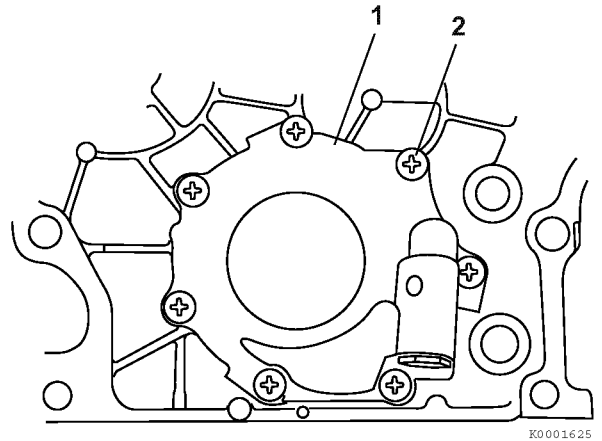

Figure 9-5
3. Remove the seven oil pump cover (1, **Figure 9-5**) screws (2, **Figure 9-5**).
4. Remove the oil pump cover (1, **Figure 9-5**) from the gear case cover.